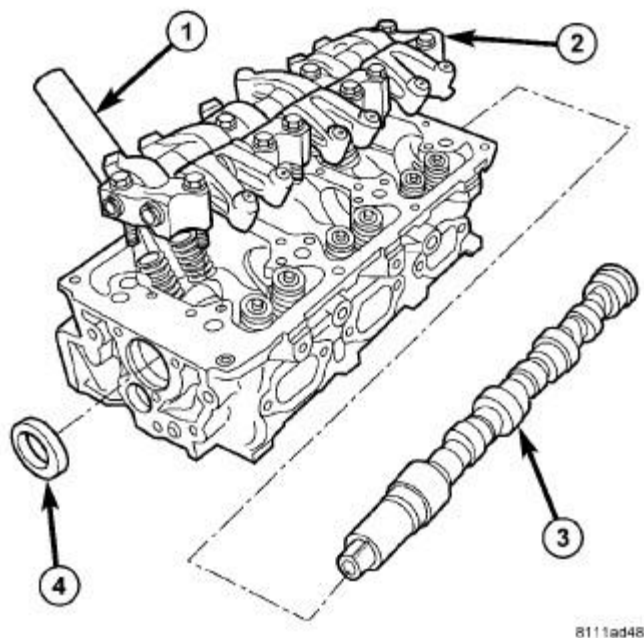

Fig. 290: Camshaft, Rocker Arm Assembly & Cylinder Head
1. Apply Mopar® Stud and Bearing Mount to a new tube (1) approximately 1 mm (0.039 in.) from the end of tube, in a 3 mm (0.118 in.) wide area. Refer to **Fig. 290**.
2. Install sealer end of tube (1) into the cylinder head. Then carefully install the tube (1) using a hardwood block and mallet. Install the tube (1) until it is seated into the bottom of the bore.
3. For spark plug tube (1) seal replacement. Refer to **COVER(S), CYLINDER HEAD, LEFT, REMOVAL** and **COVER(S), CYLINDER HEAD, RIGHT, REMOVAL**.